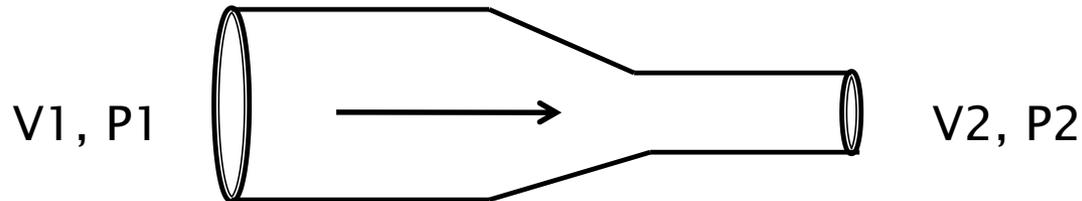

FIGURE 1. CONVERGING PIPE.
Water flows through a pipe and enters a section where the cross sectional area is smaller as shown in Figure 1. Select the letter of the correct statement about the change in pressure (P) and the average velocity (V).